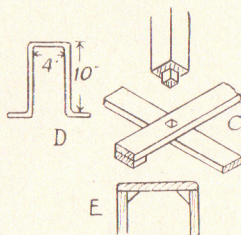

Fig. 2—Post and rocker details
The posts are cut from wood 3ins. square and are sawn at their bottom ends to form 2in. long tenons to fit the mortises. At each end of the long floor member glue and nail 2in. wide strips of 1in. thick wood. The detail sketch (C) in Fig. 2 explains the above details.
Across the top of the posts nail a board of 1in. deal, 3½ins. wide, as at (A). On this the rocking irons, now to be dealt with, are fitted. The irons are bent up to the shape shown at (D) in Fig. 2, from round iron rod, ½in. diameter.
triangular strips of wood to strengthen this part, as seen in detail sketch (E) in Fig. 2. This completes the horse portion, so far as the work of construction comes in, which should be screwed to strips (B).